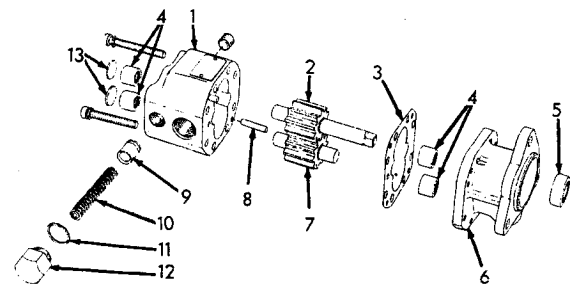

Fig. 20 -- Push-Start Pump Parts
- b. Mark pump sections; remove screws from gear housing; separate gear housing from stator, Fig. 20. DO NOT PRY APART. Remove shafts and gears from gear housing.
- d. Remove relief valve assembly, Fig. 20, from gear housing.
- b. Install relief valve assembly and expansion plugs in gear housing, Fig. 20. Install drive shaft oil seal in stator, sealing lip directed toward stator bolting flange.